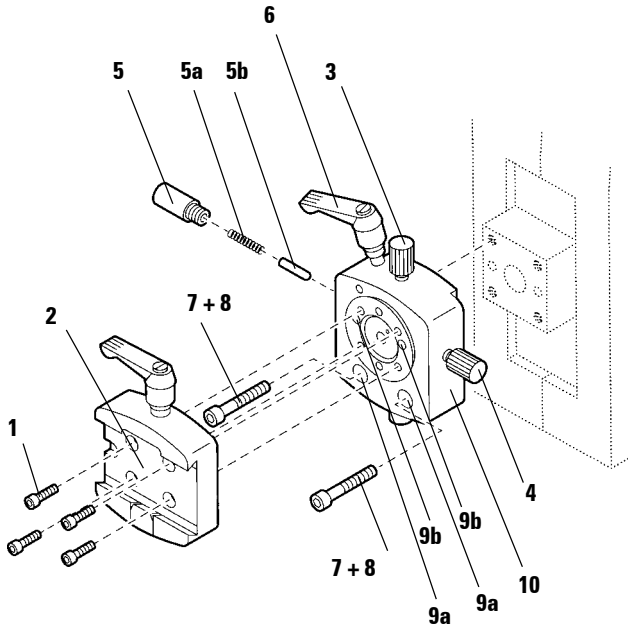

Fig. 62.1
12.8.1 Disassembling the orienting fixture for specimen clamps (Fig. 62.1)
- Detach the four screws (1) with a no. 3 Allen key and remove the dovetail adapter (2).
- Unscrew the adjusting screws (3) and (4) completely.
- Completely unscrew pressure piece (5) with a slotted screw driver and remove it together with spring (5a) and pin (5b).
- Release eccentric bolt (6) rotating counterclockwise.
- Evenly unscrew both screws (7) and (8), accessible through the bores holes (9), and remove the orienting fixture for specimen clamps (10).